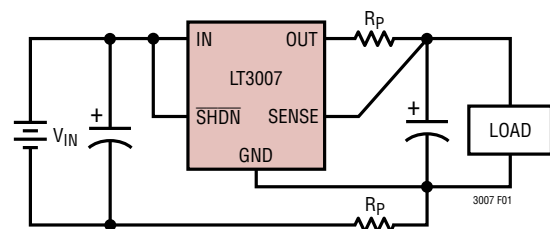

Figure 1. Kelvin Sense Connection
**SENSE (Pin 8):** Sense. For fixed voltage versions of the LT3007 (LT3007-1.2, LT3007-1.5, LT3007-1.8, LT3007-2.5, LT3007-3.3, LT3007-5), the SENSE pin is the input to the error amplifier. Optimum regulation is obtained at the point where the SENSE pin is connected to the OUT pin of the regulator. In critical applications, small voltage drops are caused by the resistance ( $R_P$ ) of PC traces between the regulator and the load. These may be eliminated by connecting the SENSE pin to the output at the load as shown in Figure 1 (Kelvin Sense Connection). Note that the voltage drop across the external PC traces add to the dropout voltage of the regulator. The SENSE pin bias current is 1 $\mu\text{A}$  at the nominal rated output voltage. The SENSE pin can be pulled below ground (as in a dual supply system where the regulator load is returned to a negative supply) and still allow the device to start and operate.